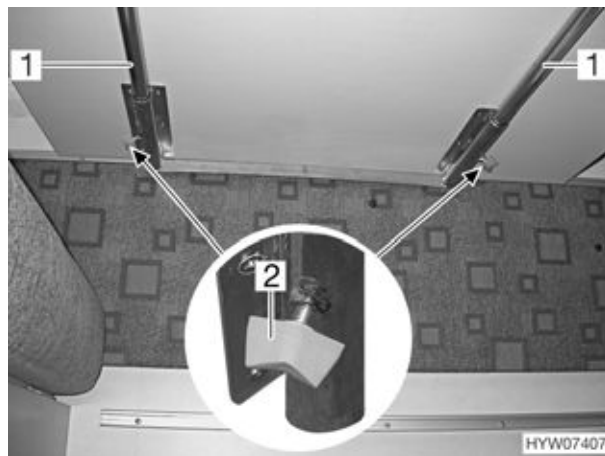

Fig. 62 Extend suspension table
- Undo the knurled screws (Fig. 62,2) at the bottom of the table.
- Lift up the front of the table-top slightly and pull it out on the guide rails (Fig. 62,1) as far as it will go.
- Re-tighten the knurled screws (Fig. 62,2).